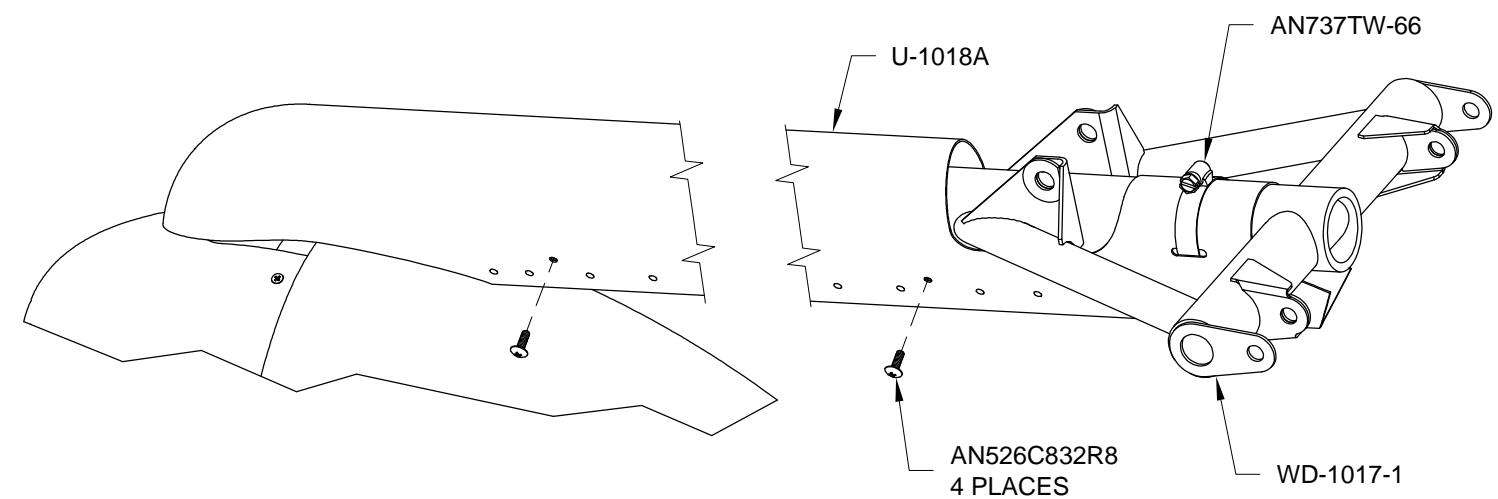

FIGURE 3: ATTACHING NOSE GEAR LEG FAIRING TO NOSE GEAR LEG ASSEMBLY
Step 3: Reinstall the U-1018A Nose Gear Leg Fairing on the WD-1017-1 Nose Gear Leg Assembly using the hardware shown in Figure 3.